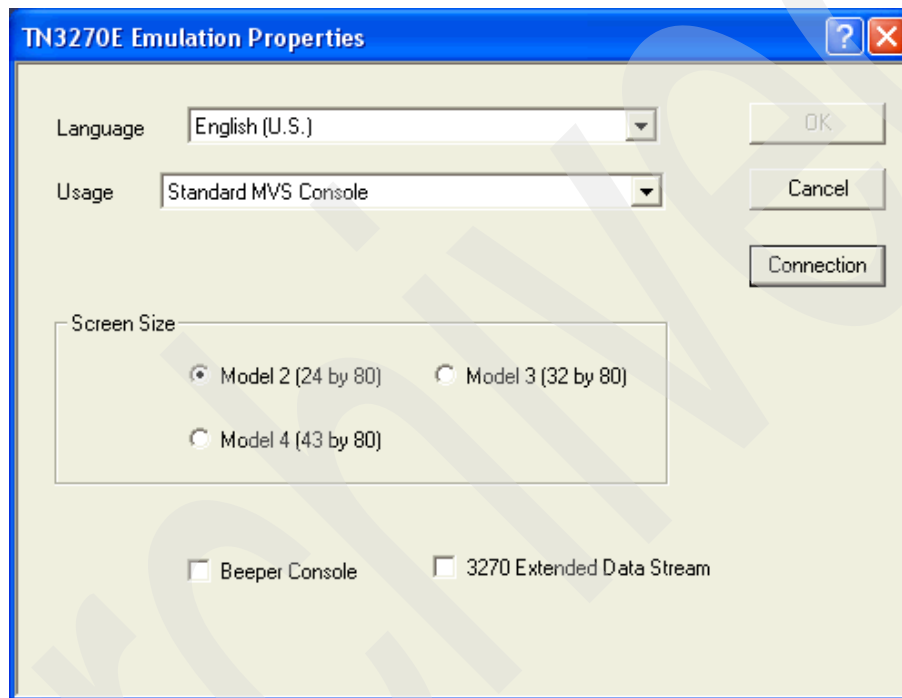

Figure F-11 TN3270E emulation properties
8. The TN3270E Emulation Properties panel is displayed (see Figure F-11 on page 141) with these options defined: